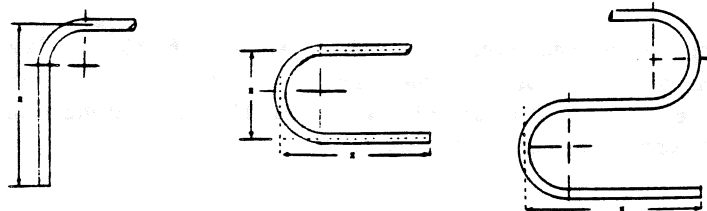

Figure 10.45.
4. If more than one bend is required (Figure 10.45), measure from the center line of the first bend leg and mark per drawing dimension. Proceed with bend as described in Step 2.